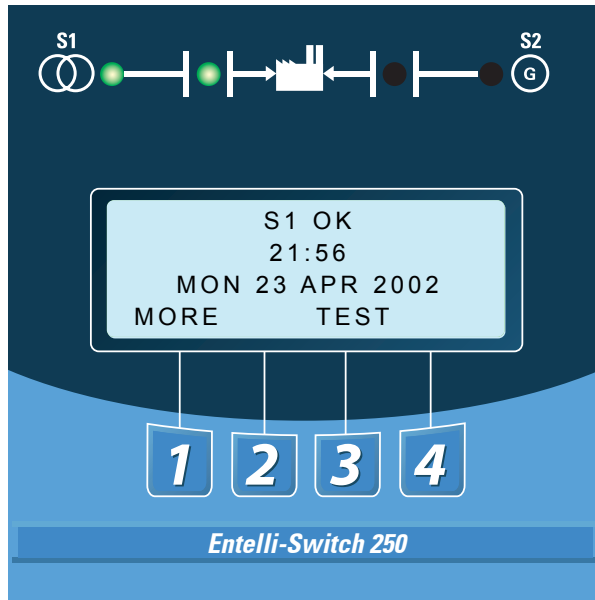

Figure 4 – LCD and keypad
After all options and accessories are checked and verified, follow these steps to set up the ATS. Refer to Entelli-Switch 250 display *Figure 4*. The annunciation LEDs illuminate to indicate (1) source availability, (2) ATS position, and (3) Entelli-Switch 250 control function (timing).